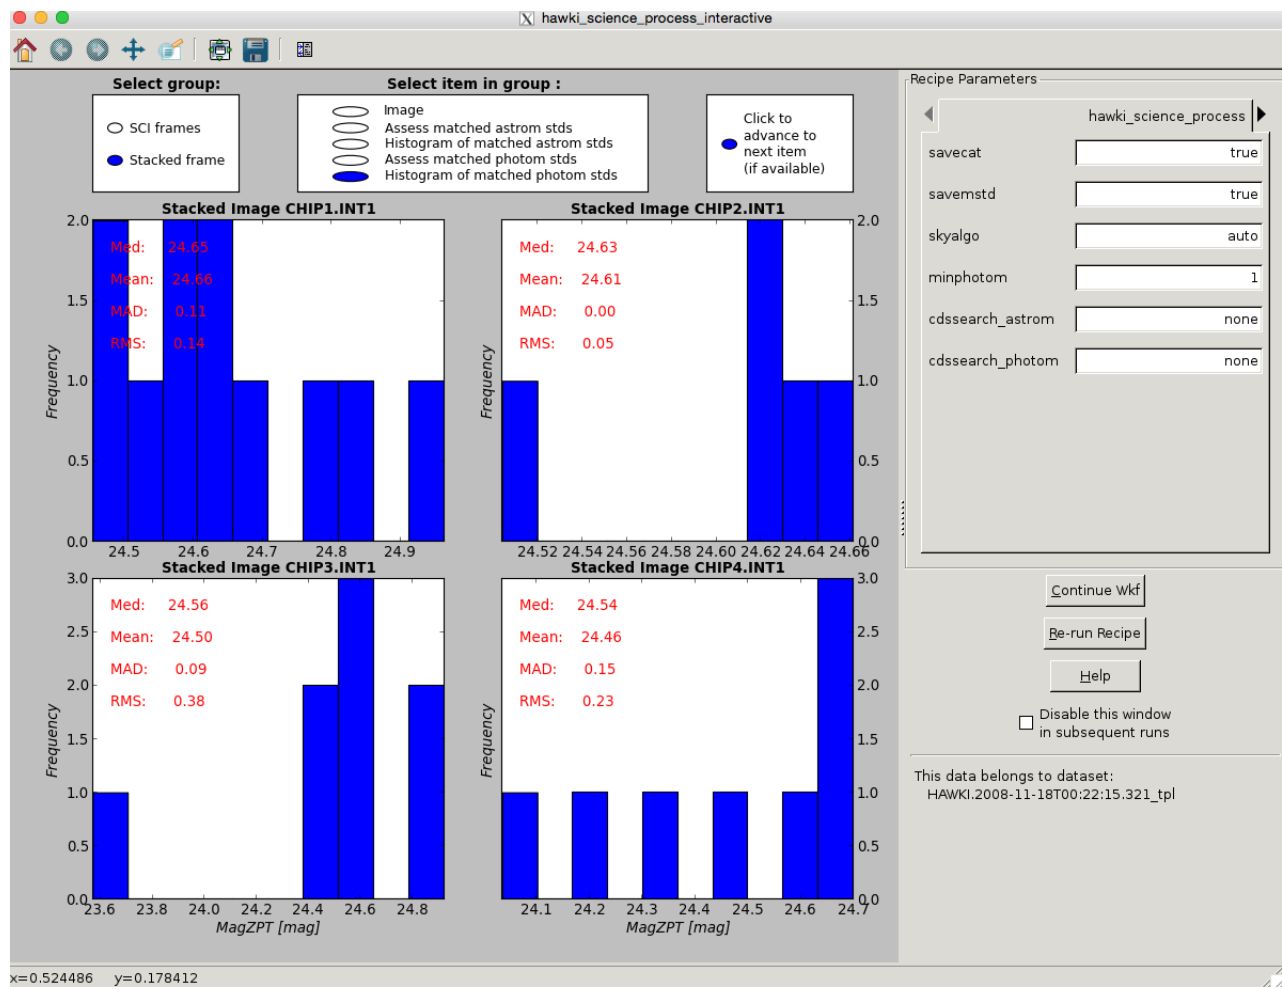

Figure 8.13: Example interactive window for evaluating the results of `hawki_science_process`; a histogram of magnitude zero points from Figure 8.12 are shown.
5. Histogram of matched photom stds (Fig.8.13): if the recipe parameter `savemstd` is set to `true` and "Stacked frame" is selected in the lefthand radio button box, this button shows a histogram of the magnitude zero points from the item above. All data points are split into 10 bins in the histogram. The x-axis of each panel is magnitude zero point in units of magnitudes; the y-axis is the frequency of occurrence. The red text in the upper left of each panel shows some statistical values describing the distribution of all the data points (median, mean, median absolute deviation, and rms deviation from the mean).